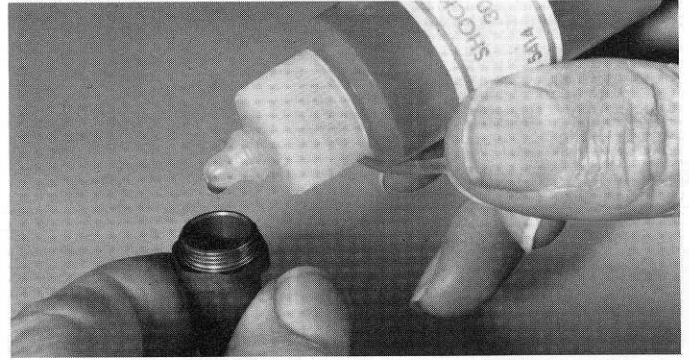

Fig. 119
- Fig. 119** Fill the front shocks all the way to the top, but fill the rear shocks only to within 1/16" of the top.